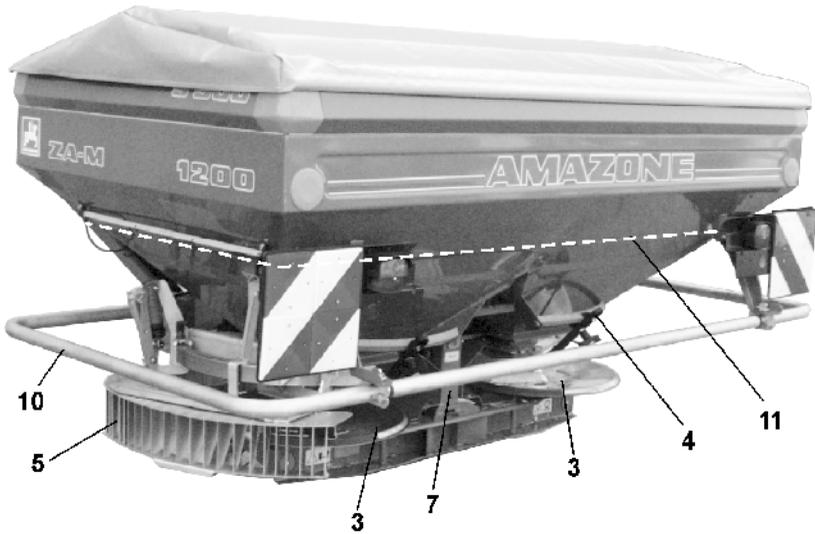

Fig. 2
- Omnia-Set spreading discs (Fig. 2/3)
- Setting lever for shutter (Fig. 2/4)
- Boundary spreading device Limiter (Fig. 2/5)
- Chain guard of agitator shaft drive (Fig. 2/7)
- Guard tube for operation with the spreading discs OM 24-36 (Fig. 2/10)
- Guard screen in hopper (Fig. 2/11)